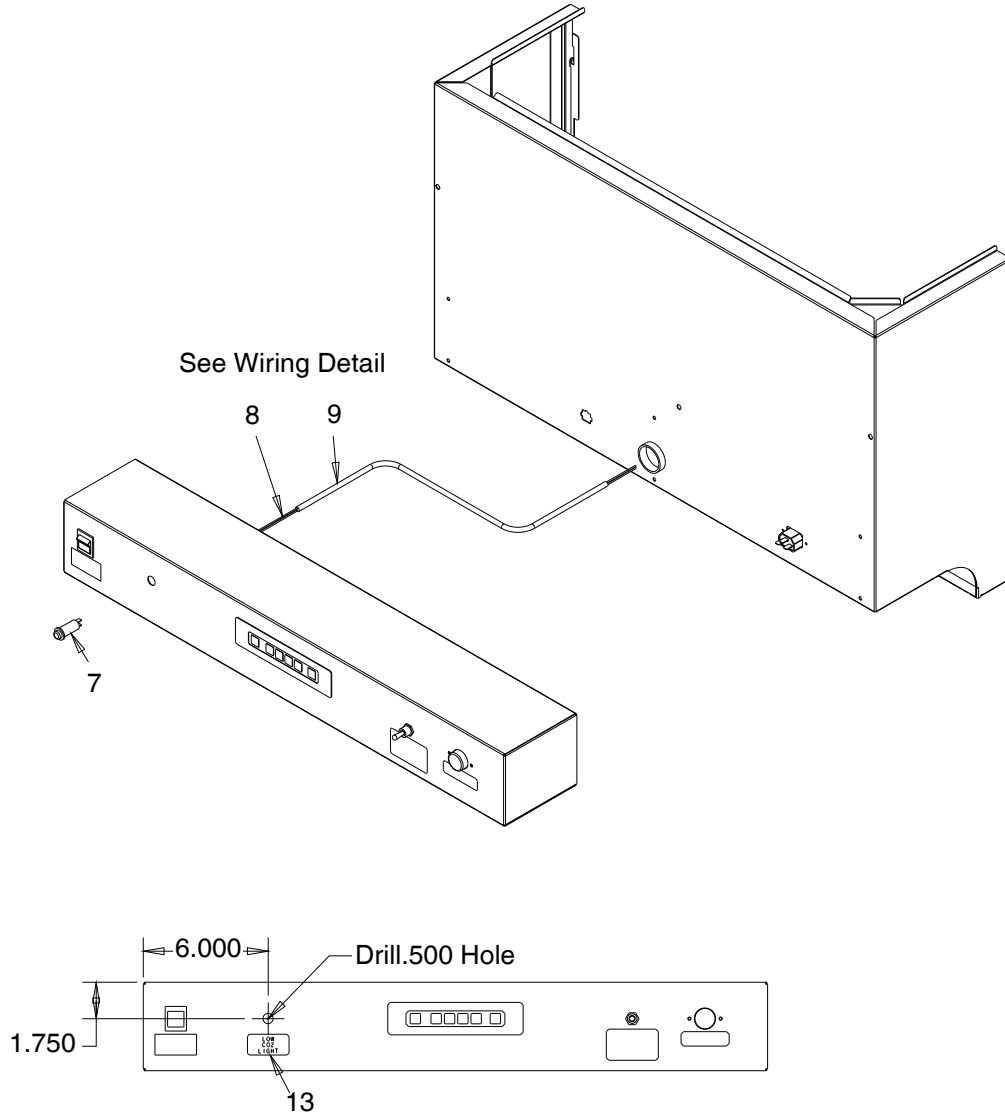

Figure 2.
4. Refer to Figure 2 for installing the CO₂ indicator light on the upper front panel. Remove the lid and straw holder by loosening (3) screws at the “key-holes” and lifting up to clear the screw heads. Remove the lower front ice portion control enclosure (4 screws) and disconnect the electrical harnesses as needed for reworking the enclosure. Locate and drill a 1/2 in. diameter hole in the enclosure as shown in Figure 2 for the indicator light. Insert the light from the front and “snap” into the mounting hole.